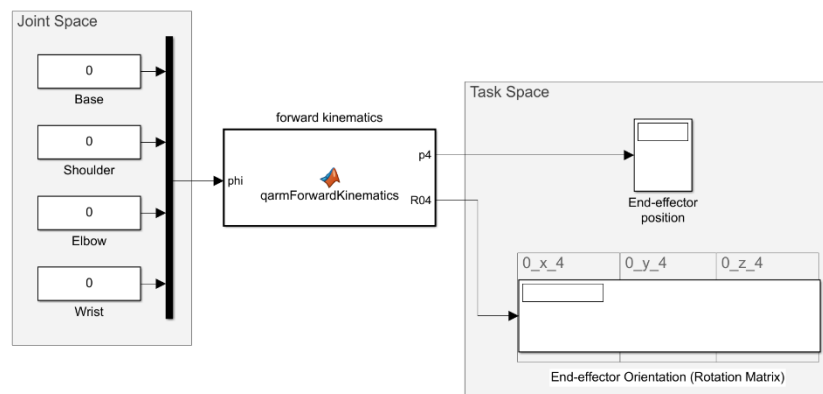

Figure 1: Forward Kinematics Simulink model.
1. Open the ForwardKinematics.slx model via MATLAB. This will be used to implement and validate your forward kinematics formulation. The 'Task Space' section will display the position and the orientation matrix of the end-effector frame with respect to the base frame corresponding to the static joint configurations described in the 'Joint Space' section, as shown in Figure 1.
4. Complete the DH Table below for the QArm manipulator based on the schematic in Figure 1 from the Workspace Identification Concept Review document.
The first plot (Figure 1: QArm Workspace) provides a 3D plot of the end-effector trajectory. It draws the end-effector trajectory of the manipulator in 3D to help you visualize the end-effector motion